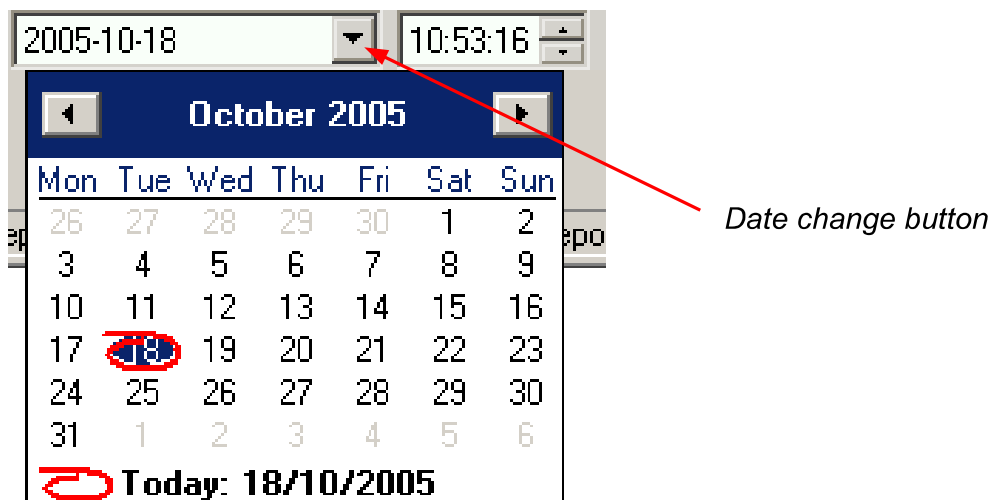

Fig. 3.4. Changing the "From date"
- 1) In order to change "From date" or "To date" date, click onto the arrow on right side of the date (Fig. 3.4). The calendar window will open: